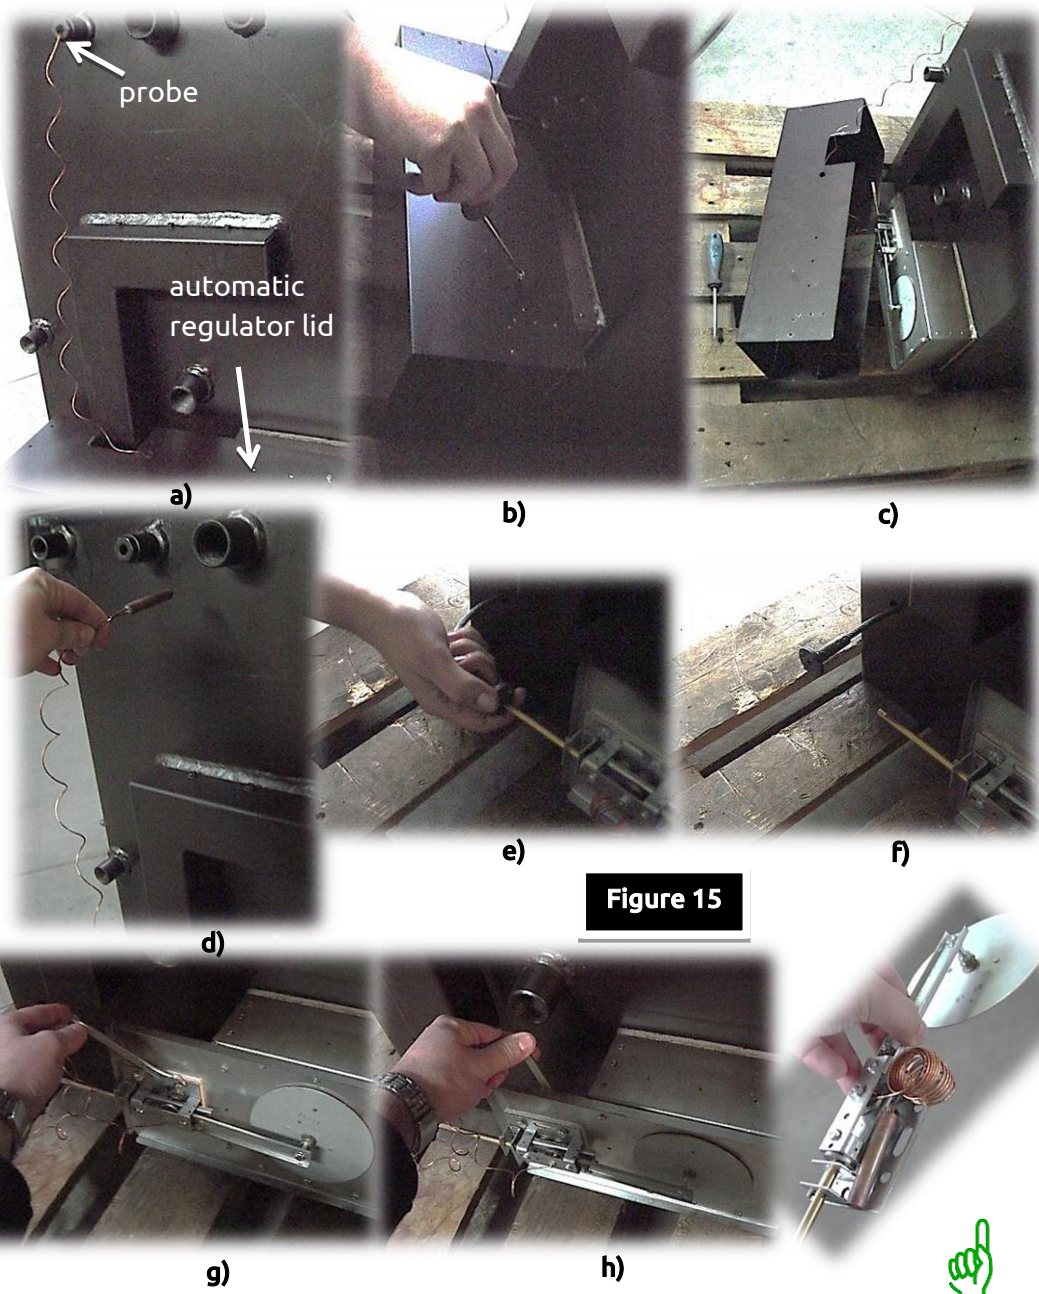

Figure 15
- pull out the probe from the boiler – *Figure 15 d*,